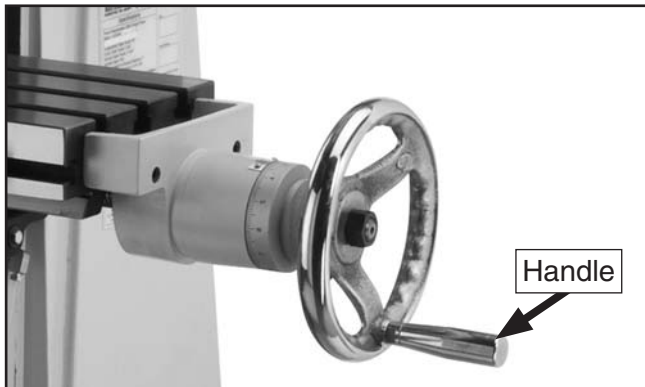

Figure 11. Right table handle attached to handwheel (left table handle not shown).
1. Secure the three handles to the handwheels, as shown in **Figures 11 and 12**.